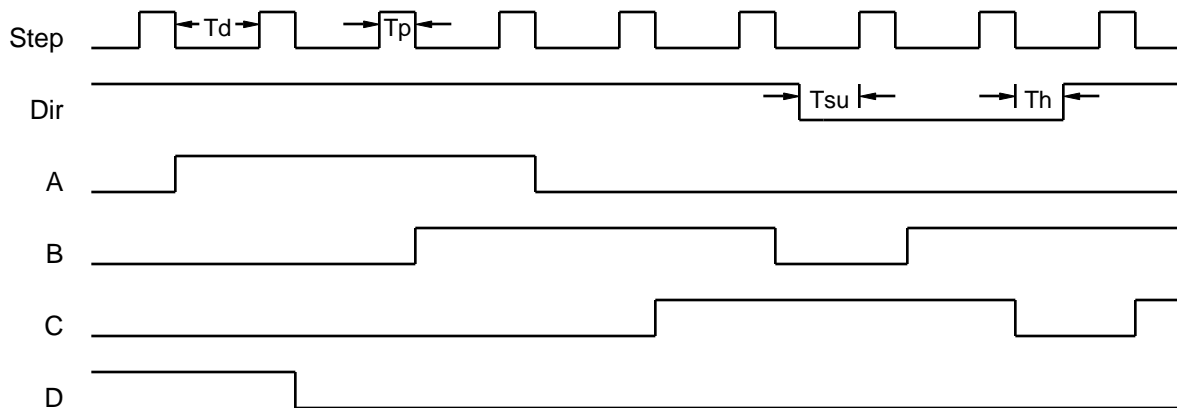

Figure 1. Circuit Timing
This pin determines the sequence that the outputs will be energized in. A high input on the Dir pin while the step input is pulsed will cause a single clockwise step, while a low level will cause a counter-clockwise step. (Refer to Figures 1 & 2).
4. Operation of the ELM312 is completely static, so there is no maximum time for any of these parameters. Each of the values is graphically displayed in Figure 1 on page 4.